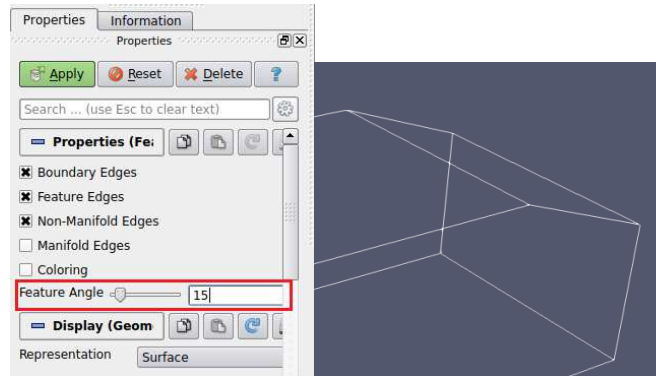

Figure 2.10: Change "Feature Angle" to show edge.
- 6) Replace the default “Feature Angle” by a value lower than 20 (19, 18, 17, .....,2) and click apply to show the missing edge as show in figure 2.10.